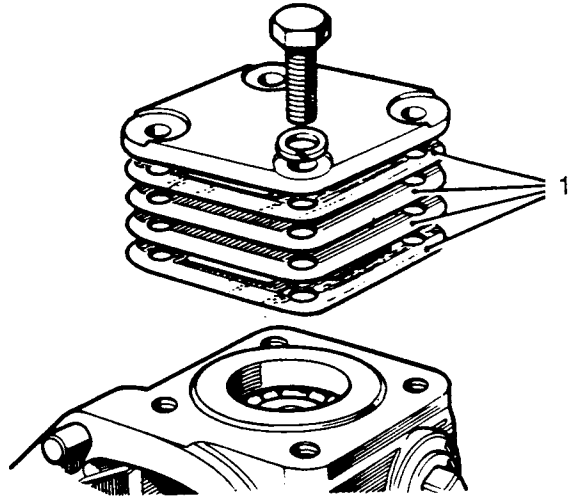

Fig L5.9
(13) Refer to Fig L5.9. Check for end-float on the steering column. Adjust the shim washer (1) thickness between the end cover and the steering box to obtain a 'free to rotate but no end-float' condition on the inner column.
(14) Set the steering in the straight ahead position (midway lock to lock).
(15) Screw the steering box adjuster by hand until there is no end-float between the adjuster and the rocker shaft. Screw in a further one half flat (maximum) to allow for locknut tightening.
(16) Tighten the adjuster locknut ensuring that the adjuster does not move.
(17) Fill the steering box with the correct grade of lubricating oil.
(18) Replace the steering column and box assembly (see Sub-section L4, Chapter 3).